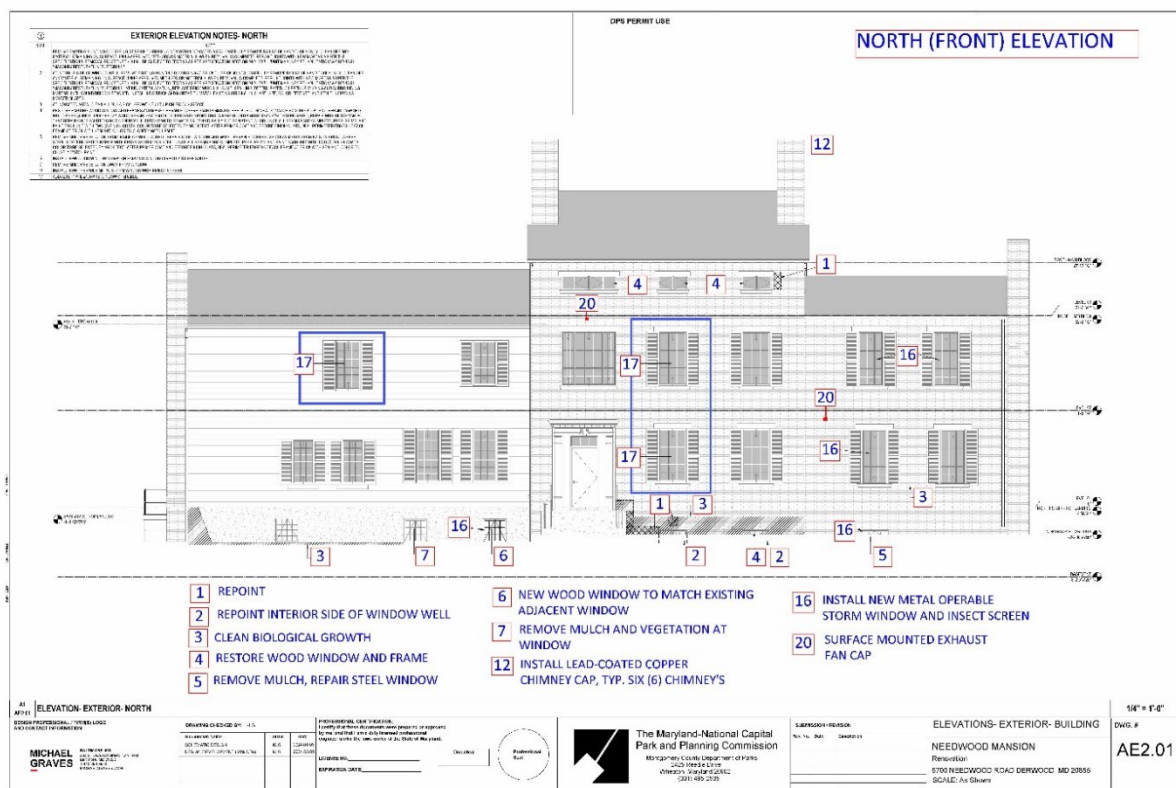
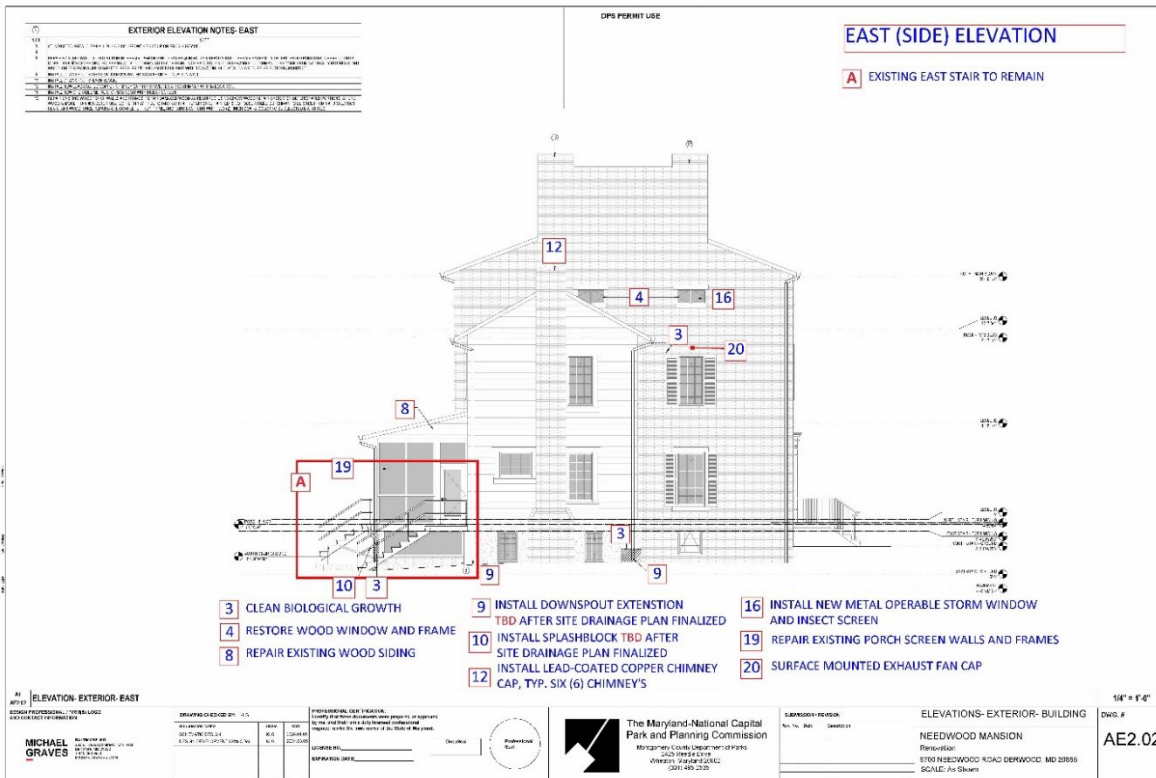
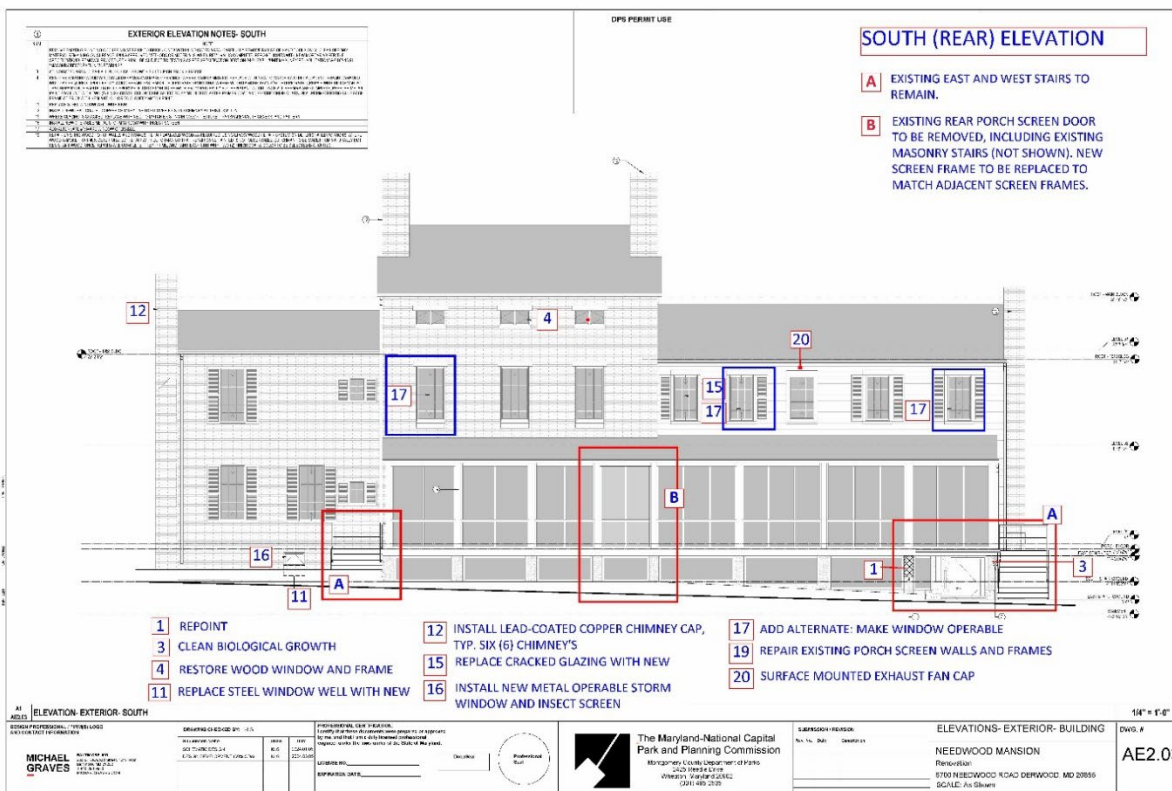

Figure 8: The proposed alterations to the front elevation.
Figure 9: The proposed alterations to the left-side elevation.
Figure 10: The proposed alterations to the rear elevation.
drainage will collect and transfer roof and ground water away from the foundation of the building (Work Items 9 and 10 on **Figure 9**). The work will update and repair the building envelope, primarily to improve climate control for occupants and archaeological and artifact archives (**Figures 7-11**). It will also repair and reconfigure specific second floor rooms to provide space for additional staff. Central air-conditioning will be added throughout, and individual window AC units will be removed. A new dehumidification system will be installed in the basement for the archival storage. The work will include window repairs (Work Item 4 on **Figures 8-11**), storm window repairs (Work Item 16 on **Figures 8-11**), window replacement (Work Item 6 on **Figure 8** and Work Item 11 on **Figure 10**), alterations at entrance doors to provide ADA access, miscellaneous existing wood frame and screen repairs at rear porch and a ramp inside the porch to transition from the porch floor to the main first floor (Work Item B on **Figure 10**) (Work Item 10 on **Figure 14**).
Staff supports the installation of new wood window at the basement on the front elevation (Work Item 6 on **Figure 8**) and finds the work meets both Chapter 24A-8(b) and the applicable *Standards*. The replacement window is to match the others wood windows at the basement found on the elevation, so it will be compatible to the historic site.
Staff supports the installation of downspout extensions and splash blocks on the left-side elevation (Work Items 9 and 10 on **Figure 9**) and finds the work meets both Chapter 24A-8(b) and the applicable *Standards*. The elements are necessary to move water away from the foundation to help protect the historic site from water damage. Staff seeks specifications for both features.
Staff supports installation of a new steel window well on the rear elevation (Work Item 11 on **Figure 10**) and finds the work meets both Chapter 24A-8(b) and the applicable *Standards*. According to the applicant, the existing well is in good condition but must be removed so the drainage improvements can be undertaken. If the existing well can be salvaged, staff recommends that it be reinstalled instead. If it cannot be salvaged, staff seeks specifications for the replacement.
- Repoint mortar (Work Items 1 and 2 on *Figures 8 and 10*).
- Repair steel windows (Work Item 5 on *Figures 8 and 11*).
- Remove mulch at window (Work Item 7 on *Figure 8*).
- Repair wood siding (Work Item 8 on *Figures 9 and 11*).
- Replace cracked window glazing (Work Item 15 on *Figure 10*).
- Installation of new metal window at the basement on the front elevation (Work Item 6 on **Figure 8**).
- Installation of downspout extensions and splash blocks on the left-side elevation (Work Items 9 and 10 on **Figure 9**).
- Installation of a new steel window well on the rear elevation (Work Item 11 on **Figure 10**).